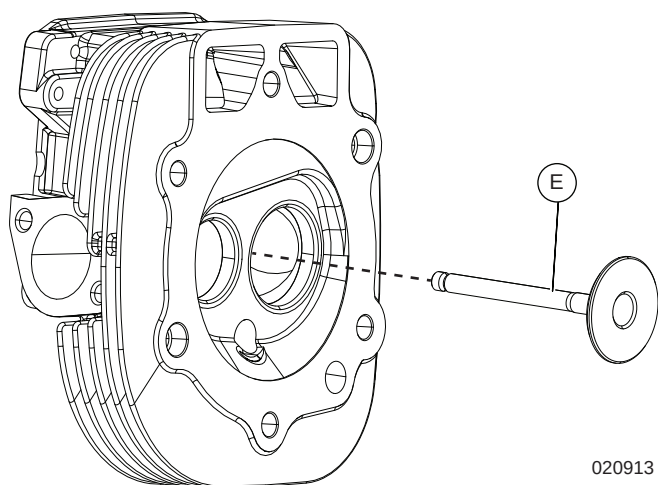

Figure 6-42. Remove Intake Valve
3. See Figure 6-42. Remove intake valve (E) from combustion chamber side.